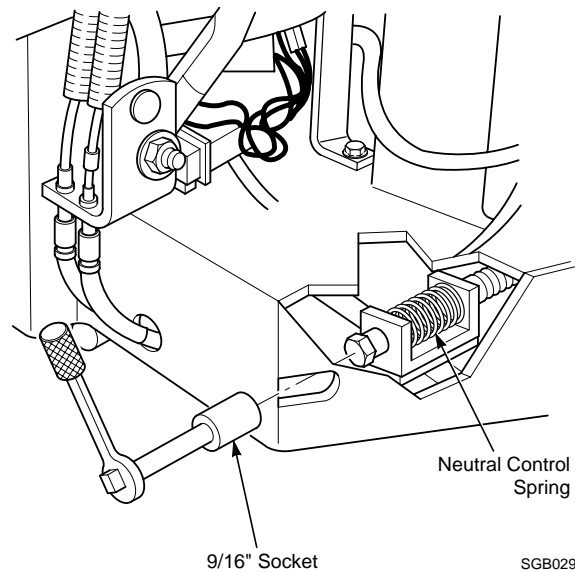

Figure 5. Neutral Adjustment
4. If the drive wheels rotate in the forward travel direction, turn the adjustment bolt clockwise until the tire rotation stops. If the drive wheels rotate in the backward travel direction, turn the adjustment bolt counter-clockwise until the tire rotation stops (See Figure 5).